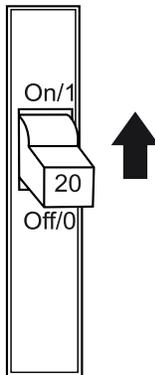

Figure 49. GFCI Circuit Breaker
2. Place a **GFCI circuit breaker** (Figure 49) in the **ON** position.